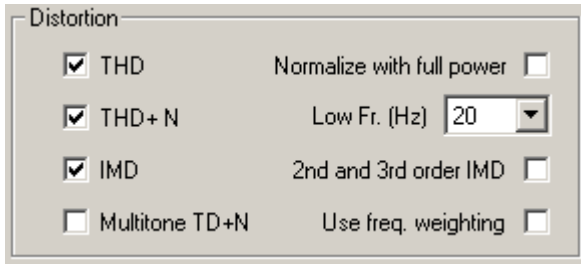

Figure 2.19
2. In the 'Spectrum Scaling' dialog box check the IMD box, as shown in Fig. 2.19.